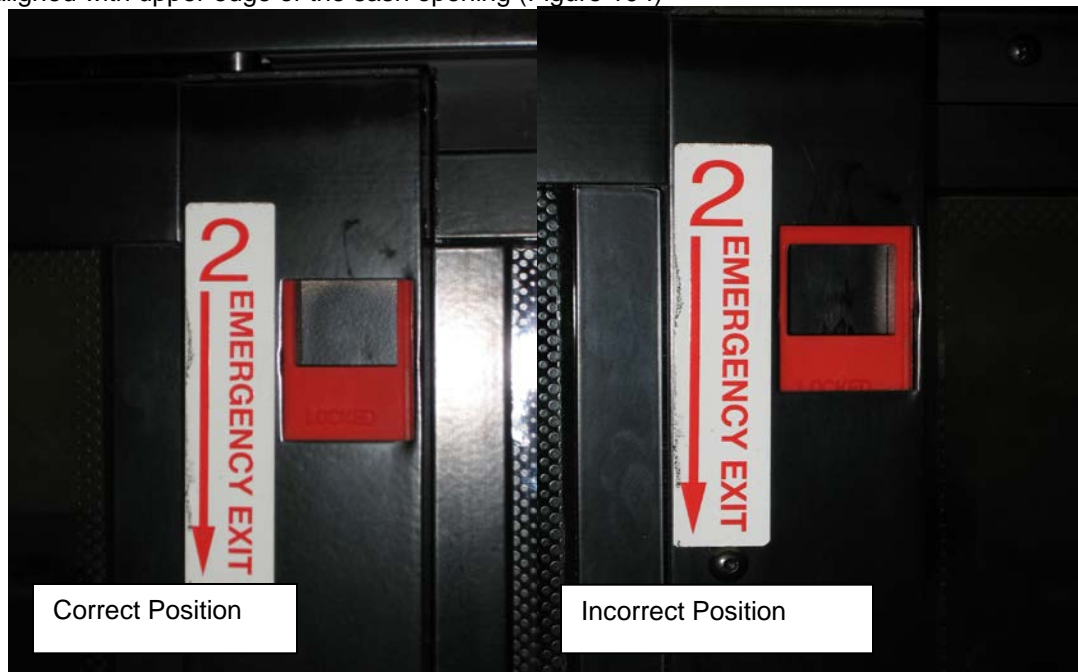

FIGURE 104: RELEASE LATCH PROPER POSITION
6. Confirm that both latches are in the closed (latched) position. The upper edge of the latch opening must be aligned with upper edge of the sash opening (Figure 104)